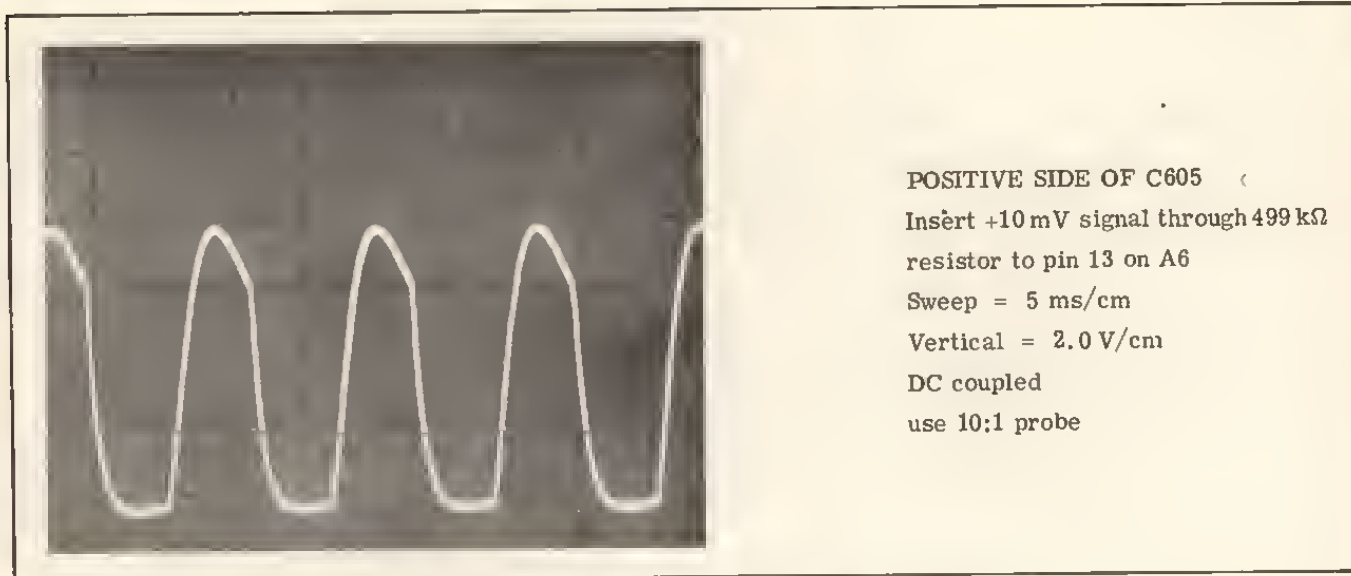

Figure 5-7. Input to Demodulator (feedback loop open)
③	Investigate meter (M1), R5, and R6 for opens.	PASSES: Proceed to ⑤ FAILS: Proceed to ⑫
④	Remove the input to 3400A. Unsolder red lead from pin 13 (A6) and insert a +10 mV dc signal from 738BR through a 499 k Ω resistor (-hp- Part No. 0757-0327) to pin 13. Measure ac signal at positive side of C605. Refer to Figure 5-7 for waveform.